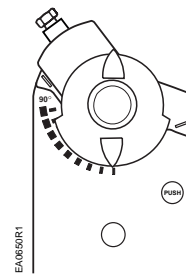

Figure 24.
- e. Place the position indicator to the "0" position on the outside scale. See Figure 24.